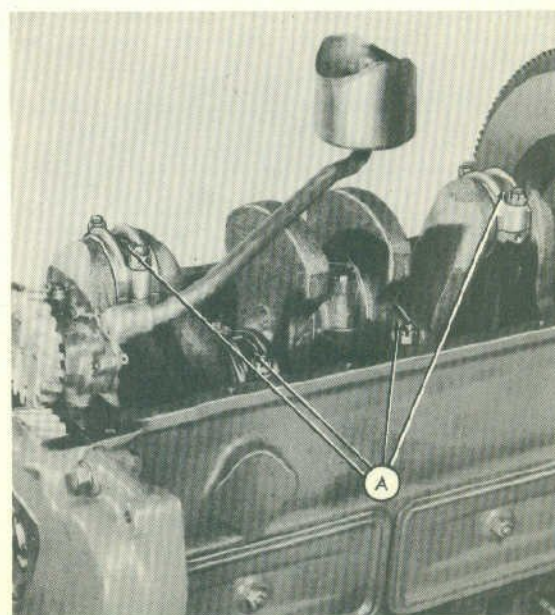

Fig. 2
Step 3—Remove the rod bearing caps and inserts (A-Figure 2).